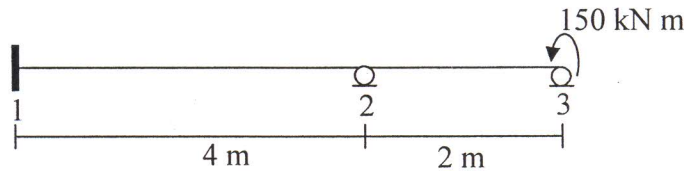

Fig. 1
Q.1 For the beam loaded as shown in Fig. 1, span 1-2 has a temperature differential applied to it such that the temperature of its lower surface is 50° higher than that of its upper surface. Depth of the beam is 0.16 m and $\alpha = 11 \times 10^{-6} / ^{\circ}\text{C}$. Determine the member end actions for both the members. $E I = 50 \text{ MNm}^2$ (10)